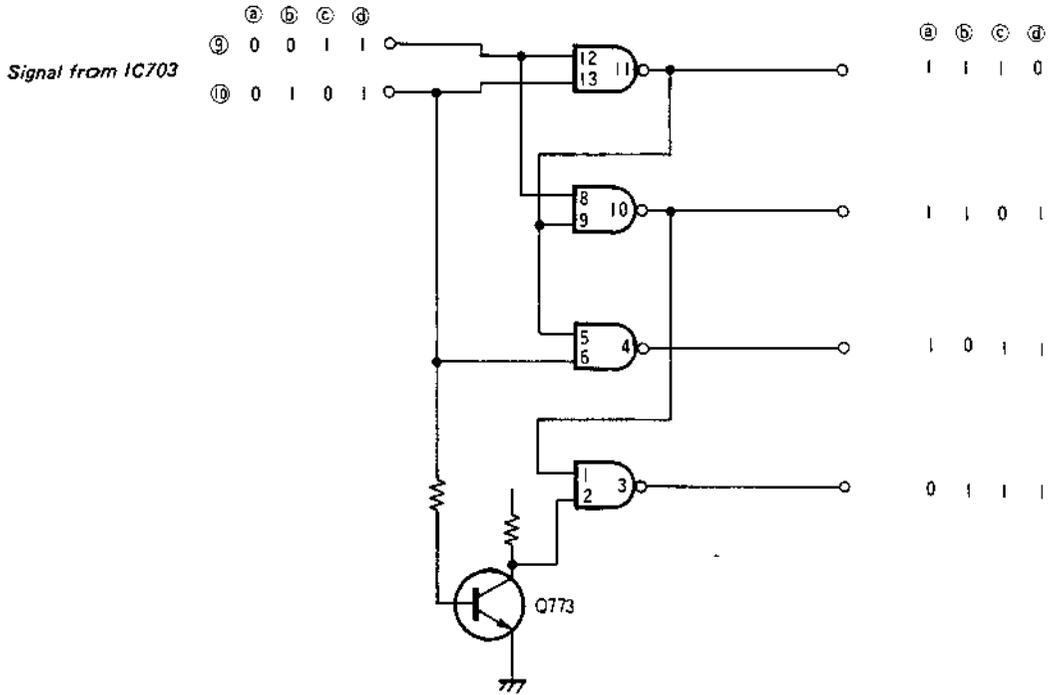

Fig. 6
IC719 breaks down the 2 bit signal from IC703 pins (9), (10) to a 4 bit signal. This signal is applied to IC701. Fig. 6 is its circuit diagram.